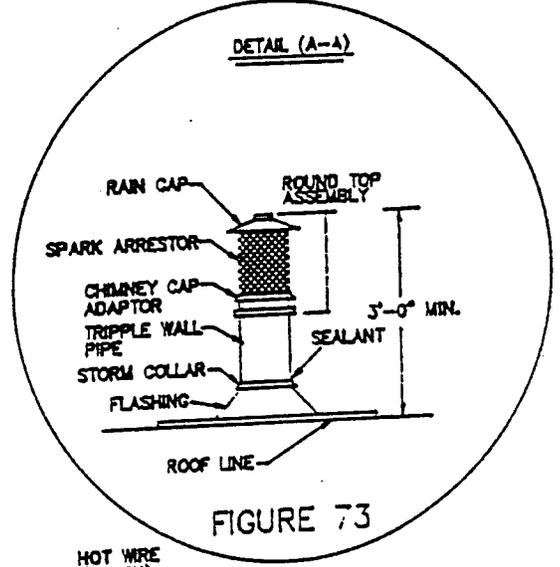

FIGURE 73
2. Install the storm collars over the roof flashing. The storm collar must rest on top of the flashing spacers. Install the tabs through the slot on the opposite end of the storm collar and push storm collar down over the chimney so that it rests on the roof flashing spacers. Pull the tab to tighten the storm collar against the chimney pipe. Seal top edge of storm collar with non-combustible waterproof sealant. See Figure 73.